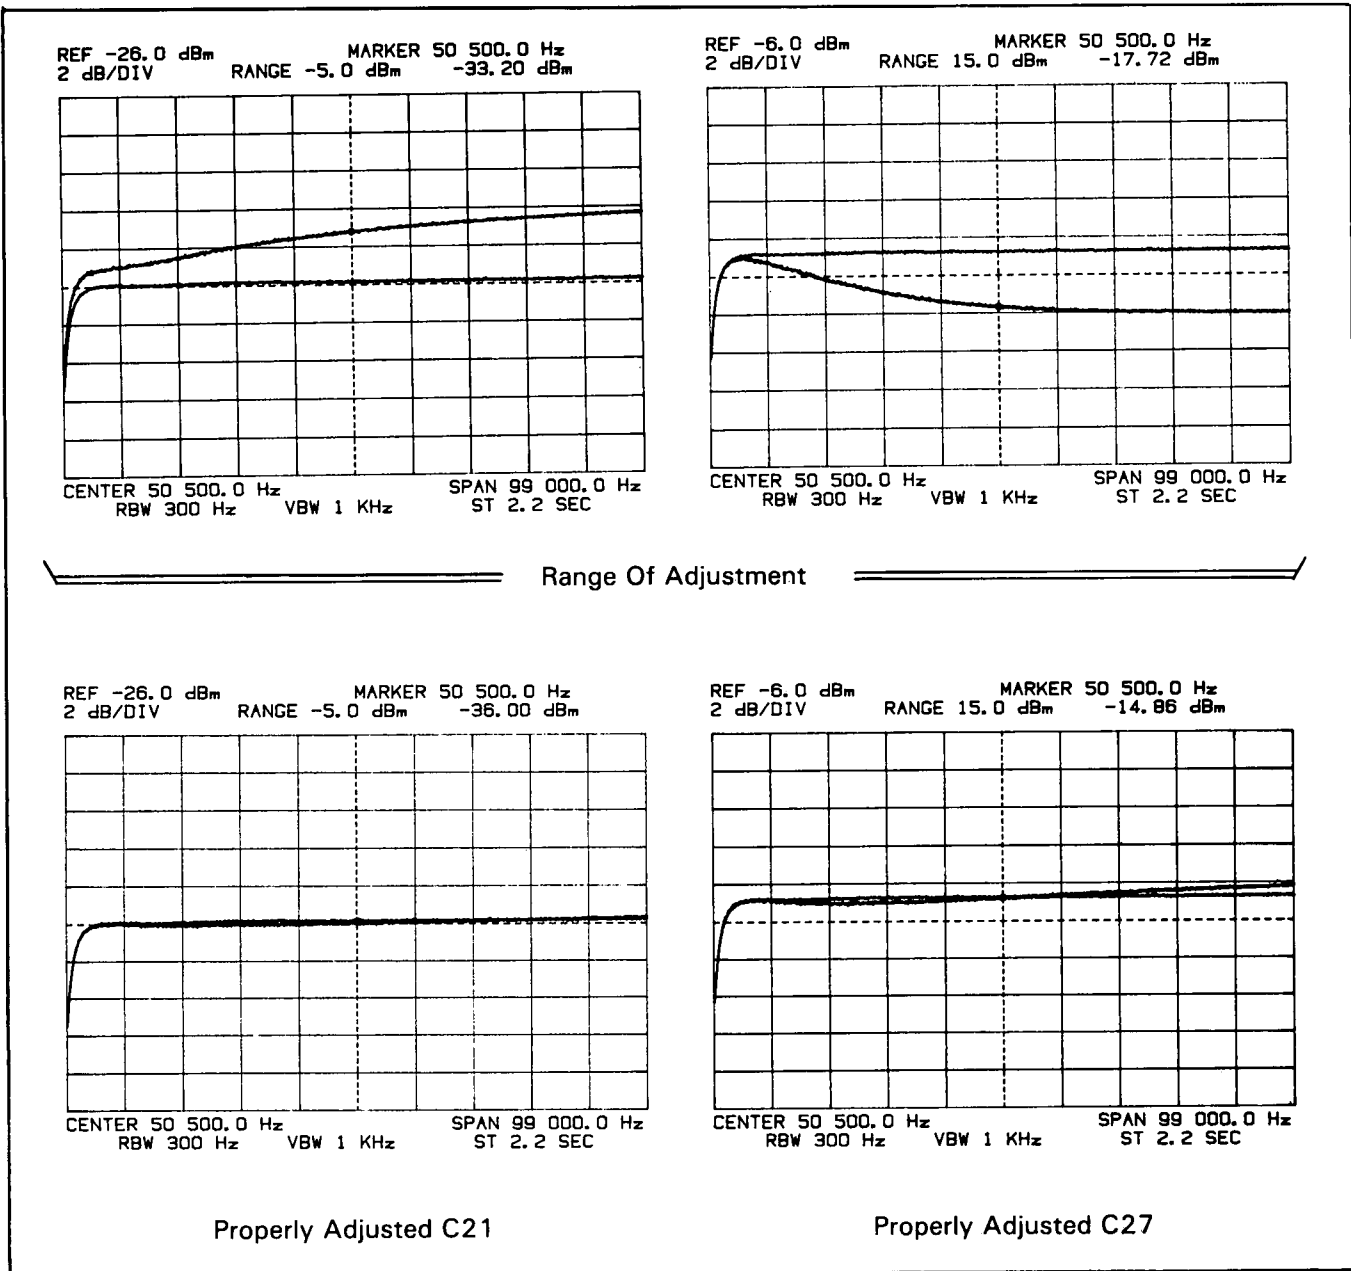

Figure 5-41. 1MΩ Low Frequency Flatness Adjustment
- j. Adjust A1C21 so that the A trace overlaps the B trace as closely as possible (see Figure 5-41).